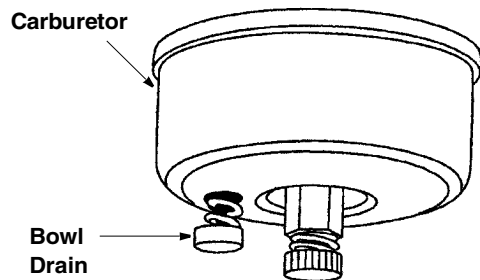

Figure 38
- Drain carburetor by pressing upward on bowl drain, located below the carburetor cover. See Figure 38 .
- Remove the spark plug and pour one (1) ounce of engine oil through the spark plug hole into the cylinder. Cover spark plug hole with a rag and crank the engine several times to distribute the oil. Replace spark plug.